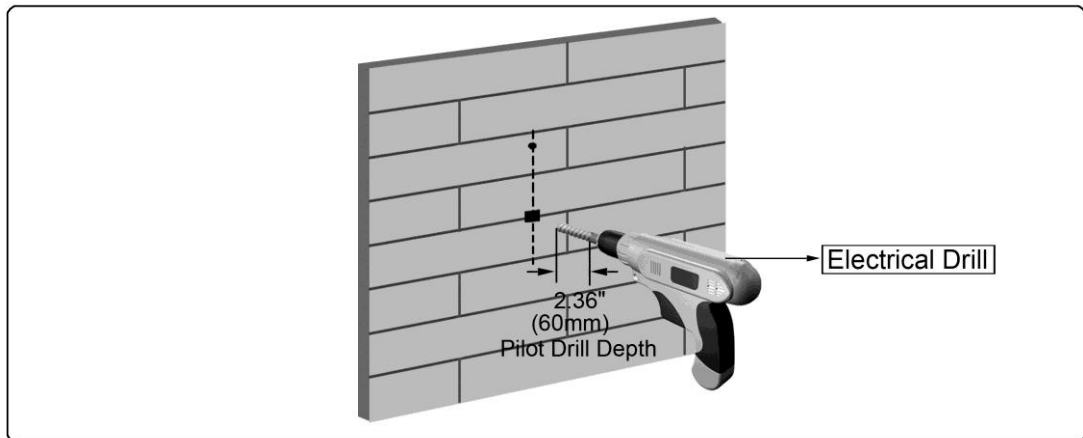

Figure 1-7
3. Drill the concrete hole and ensure the pilot holes are straight and completely through concrete wall (**See Figure 1-7**).